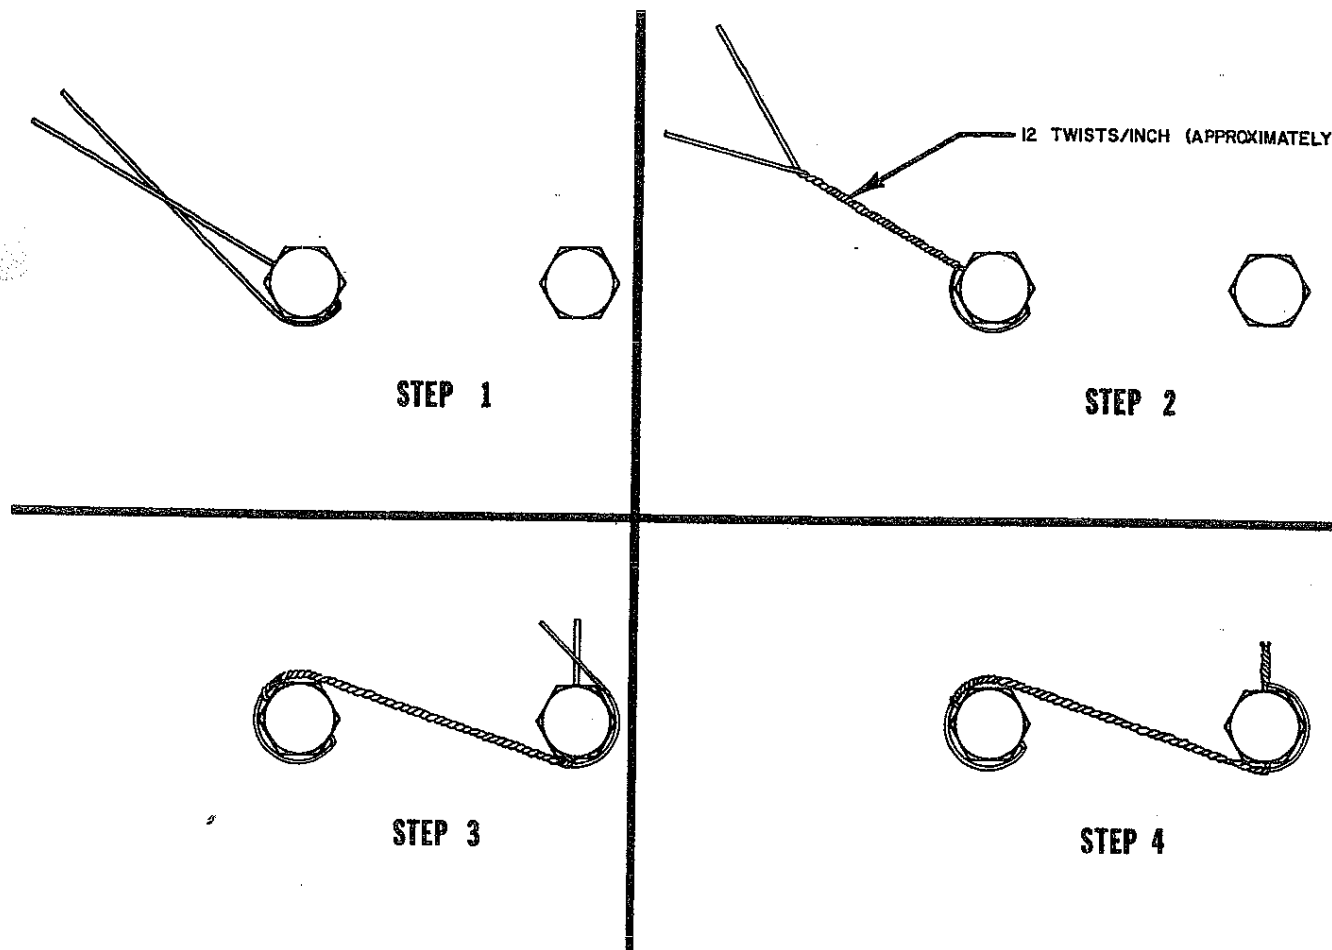

Figure E-15. Safety Wire Installation
2. Safety wire all bolts in pairs. The safety wires should be installed in such a way that it pulls the bolt in the direction employed for tightening (refer to Figure E-15).